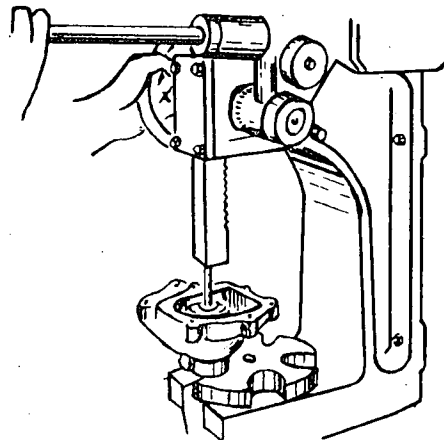

Fig. 3
- c) Slowly press the impeller shaft into the pump housing, until it rests on its base (fig. 3).